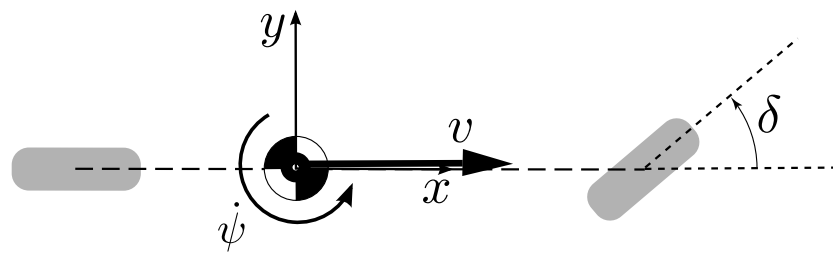

Figure 5: Bicycle model defining steering angle δ (drawn in positive direction after "ISO 8855" coordinate system $\Rightarrow z$ up) and speed v .
- DE7.3.8 Beside Remote Emergency System (RES) messages (see DE7.4.9), the messages defined in Table 4 must be provided to the DL with a cycle time of 100 ms each. Steering angle δ and vehicle coordinate system is defined in figure 5.